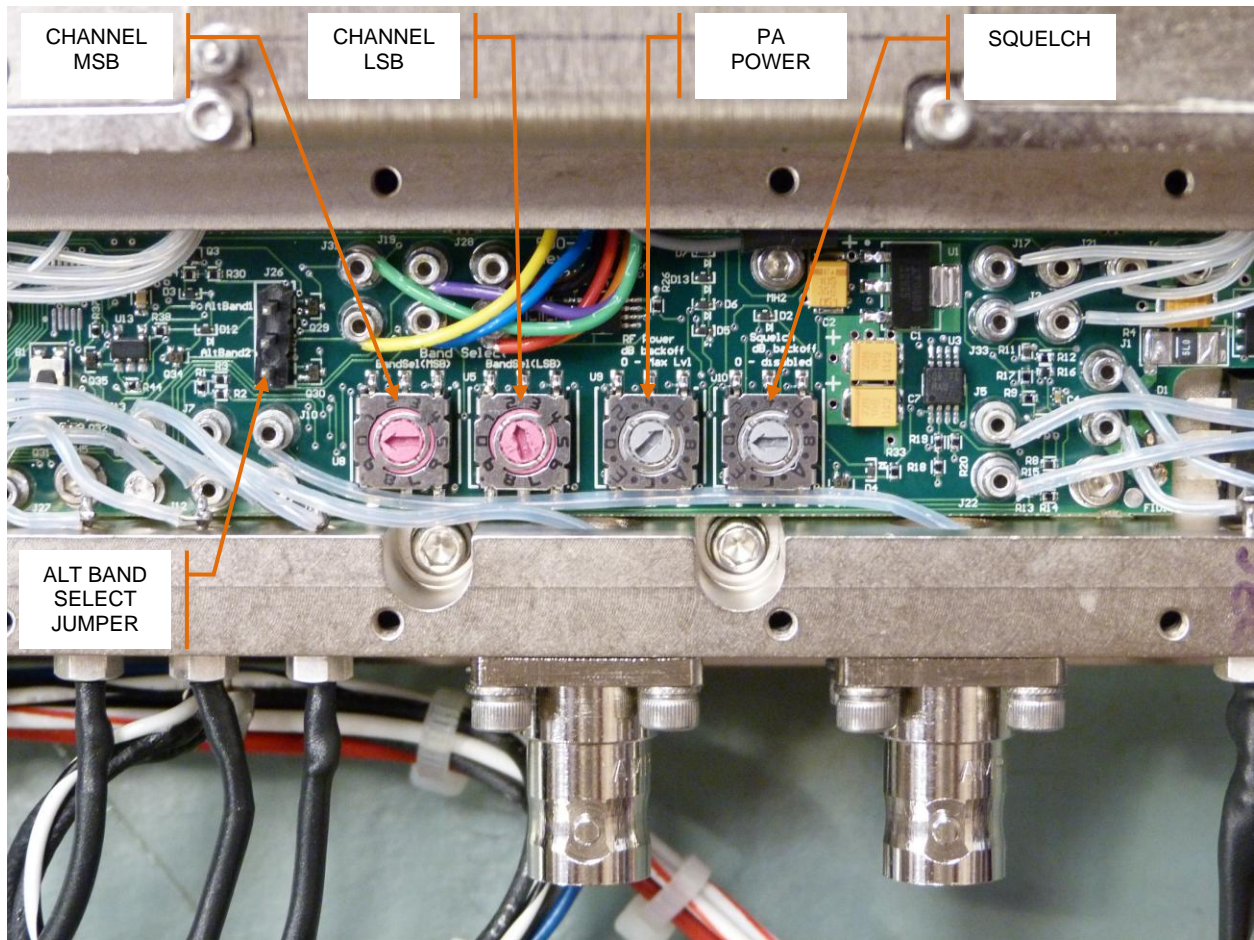

Figure 23 Configuration Switches and Jumper
4. Identify the configuration switches. See Figure 23.